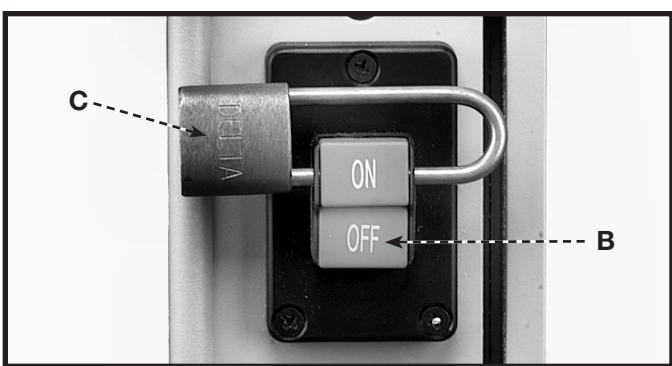

Fig. 22
The "ON/OFF" switch is located on the front side of the band saw. To turn the saw "ON", push the button (A) Fig. 21 in to the "ON" position. To turn the saw "OFF", push the button (B) Fig. 22 in to the "OFF" position.
**IMPORTANT:** When the tool is not in use, the switch should be locked in the "OFF" position to prevent unauthorized use, using a padlock (C) Fig. 22 with a 3/16" diameter shackle.